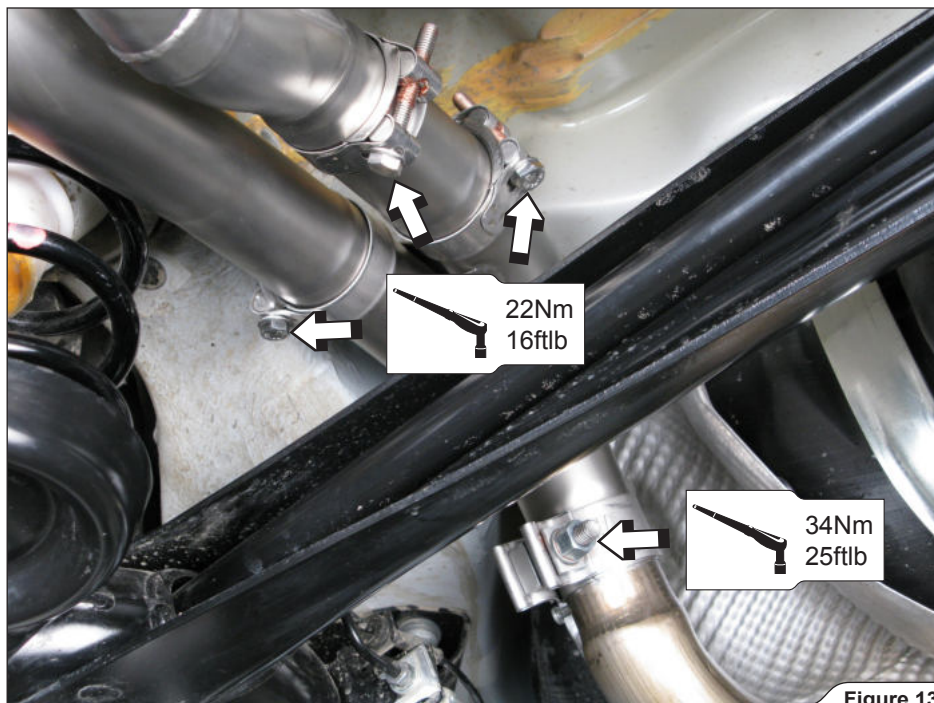

Figure 13
9. Orient the clamps as shown and tighten them to the specified torques (**Figure 13**).